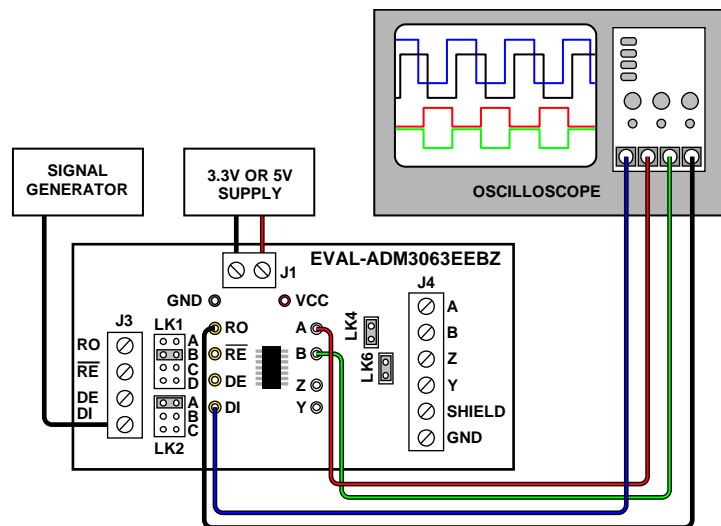

Figure 3. Full-Duplex RS-485 Loopback Test
For the EVAL-ADM3063EEBZ, a loopback test can be set up by closing the LK4 and LK6 jumpers. This test is shown in Figure 3. A signal generator is connected to the DI pin and this allows verification of the bus signals and the receiver output. Note the jumper positions of LK1 (B) and LK2 (A) for the EVAL-ADM3063EEBZ evaluation board. Ensure that LK3 and LK5 are also closed to loop back the transmitter outputs to the receiver inputs. In this configuration, the default termination resistors can be used, because both 120  $\Omega$  resistors on the board are connected in parallel by the loopback, ensuring that the test is conducted with a standard RS-485 load of 60  $\Omega$  (bus terminated at both ends by 120  $\Omega$ ).